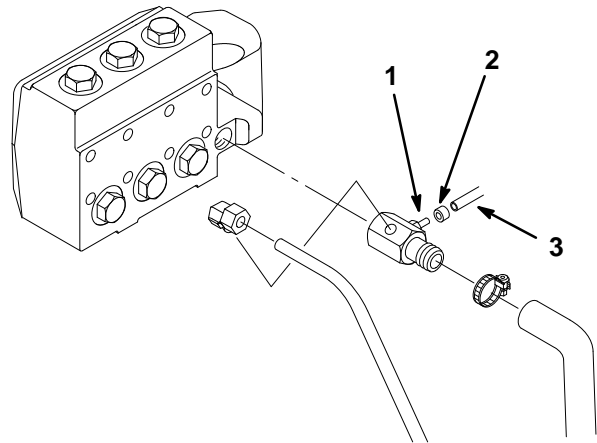

Figure 10
- 19.** Reconnect the valve assembly hose and tube retainer to the barbed fitting on the inlet side of the pump (Fig. 10).